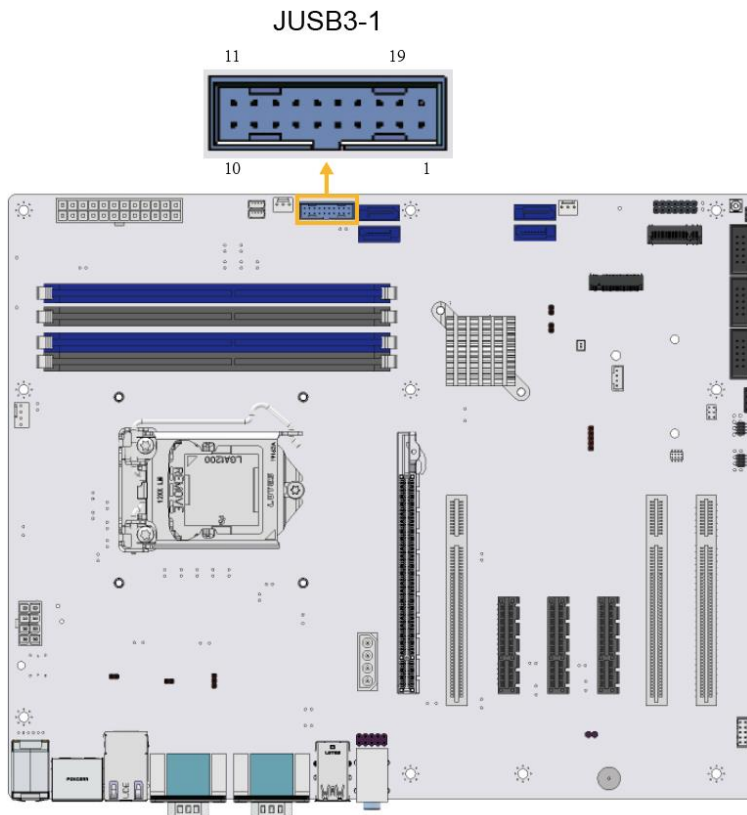

Figure 3-36: Internal USB 3.2 Gen 1 Connector Location
- CN Location:** See **Figure 3-36**